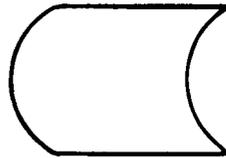

Fig. 9—On-Line Storage Symbol
2.09 *The on-line storage symbol* (Fig. 9) represents an input/output function utilizing any type of on-line storage; for example, magnetic tape, magnetic drum, magnetic disc.